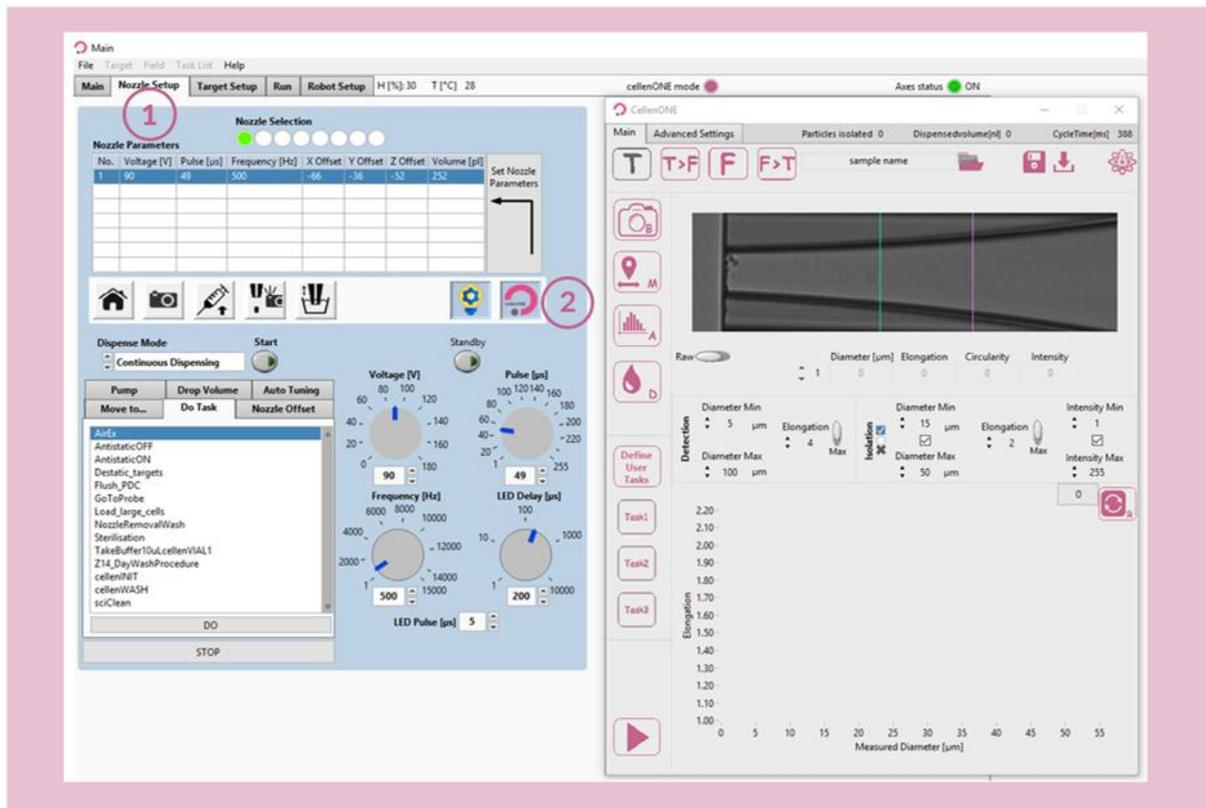

Figure 19. cellenONE module for single cell isolation (right window)
Select the “Nozzle Setup” tab (Figure 19 (1)) and press on the cellenONE logo (Figure 19) to open the cellenONE module for single cell isolation.